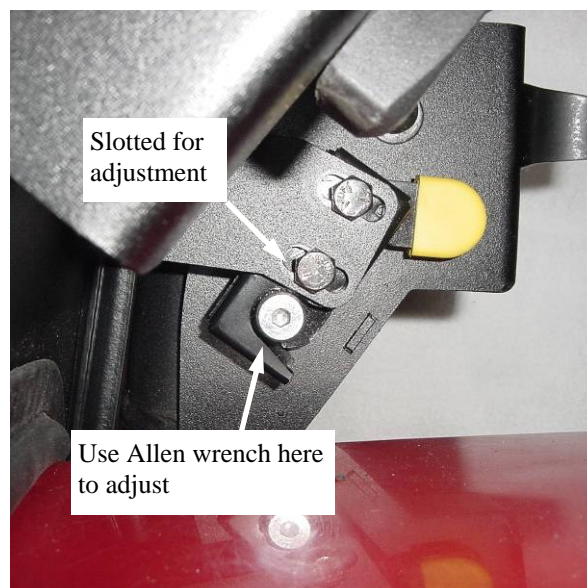

Fig. 3.2.A (view from inside of passenger's side)
3.2.1 Three areas are adjustable if a better seal is desired. First be sure that the pins are at the bottom of the receiving slots in the top mounts before beginning any adjustments. The lower latches have adjustment in and out (see fig. 3.2.A). The lower pins have adjustment up and down. The upper pins have adjustment in all directions due to an angled slot. Make the necessary adjustments until you achieve “double click” engagement. If the issue is with the seal against the frame tubing, adjust the lower latches in or out. If the issue is with the seal against the hood, adjust the lower pins up or down. The upper pins also have up and down adjustment if more is necessary.